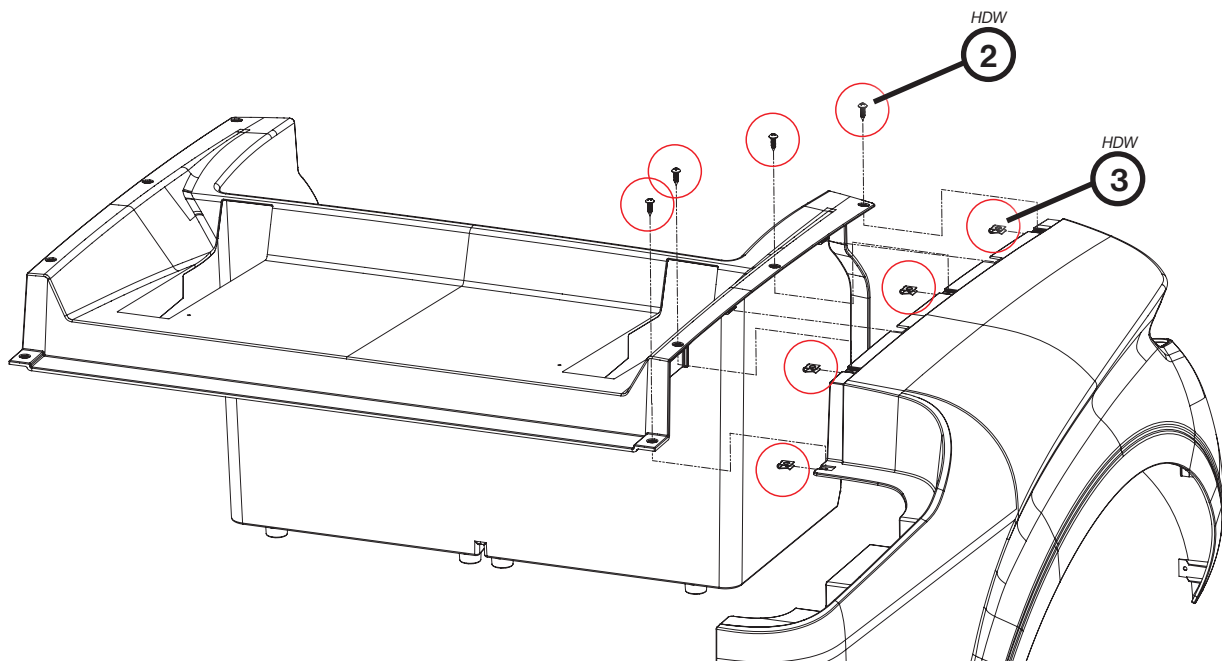

Fig. 5
Install four (4) clip nuts (*HDW 3*) on each of the rear side body panels as shown below in Fig 5.
Align tabs on bag well into slots on side body panel and secure using four (4) M5 screws (*HDW 2*) per side. Tighten with a T25 Torx socket. See Fig. 5.